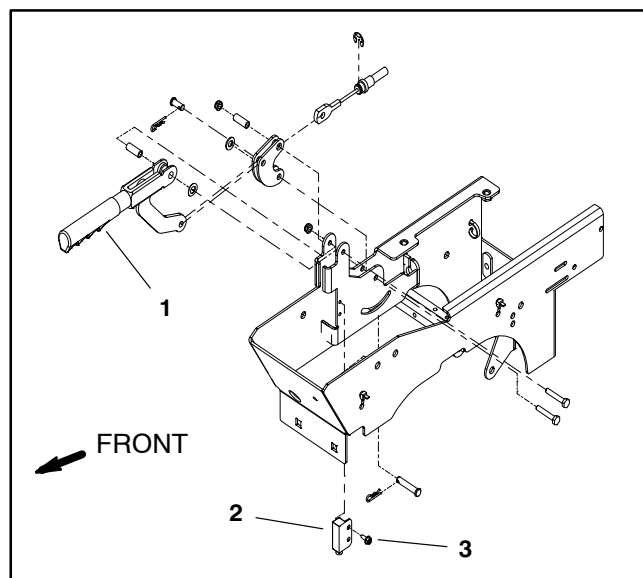

Figure 16
The parking brake switch is a normally closed proximity switch that is attached to the control lever support (Fig. 16). The switch is in its normal closed position when the parking brake **is** applied. When the parking brake **is not** applied, the parking brake lever is positioned close to the brake switch causing the switch to open. The closed brake switch is used in the starting interlock system to make sure that the drive system is disengaged during engine starting.
1. Park vehicle on a level surface, shut engine off, remove key from ignition switch and apply parking brake. Locate the parking brake switch (Fig. 16).
4. With the use of a multimeter (ohms setting), test for continuity across the two (2) switch terminals. There **should be** continuity (zero ohms) when the parking brake is applied and there **should not be** continuity (infinite ohms) when the parking brake is released.